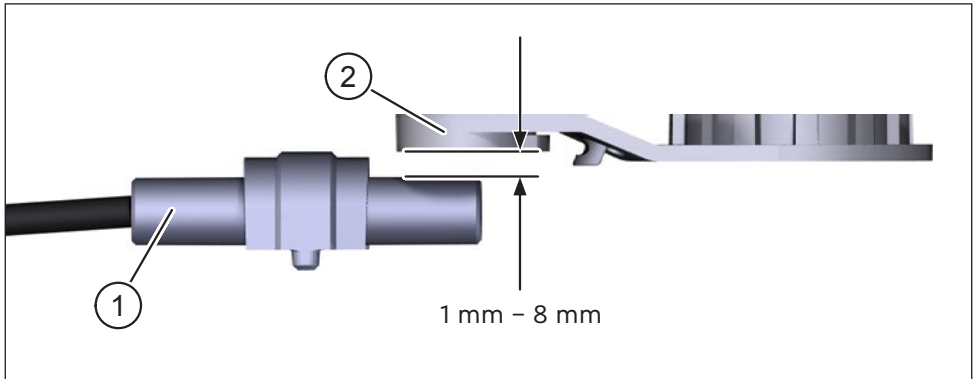

Fig. 2: Mounting – Distance between Speedsensor and magnet
The speed of the e-bike is measured with support of a magnet (item 2 in Fig. 2) which triggers pulses at the speed sensor (item 1 in Fig. 2). The Speedsensor and magnet are mounted at manufacturer with a distance between 1 mm and 8 mm (see Fig. 2) in the area of the rear wheel.